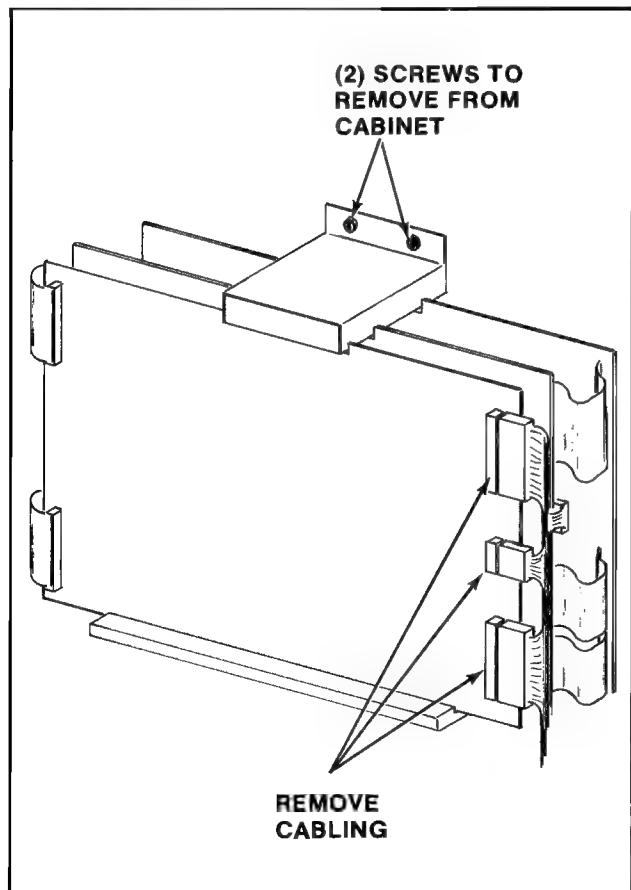

Figure 25 Replacing card rack P.C.B.'s —
- To remove the P.C. boards from the card rack. See Figure 25.